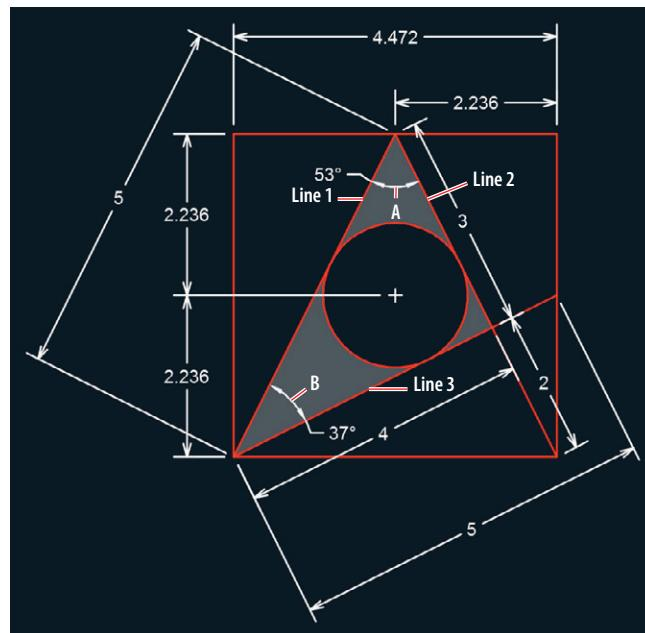

FIGURE 11.17 Adding angular dimensions
9. Open the dimension menu in the Annotation panel, and select the Angular tool. Select lines 1 and 2 shown in Figure 11.17, and then click point A. Press the spacebar to repeat the **DIMANGULAR** command, select lines 1 and 3, and then click point B.